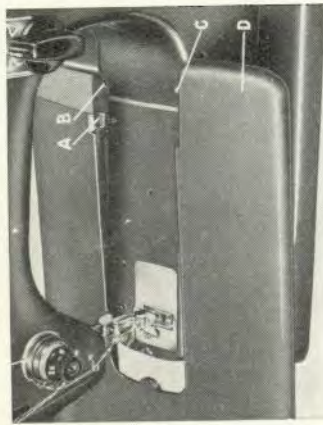

Fig. 16a.
To facilitate the sewing of flat work, the extension plate can be installed on the machine. To secure this extension plate, slip open end into the free arm as shown in Fig. 16a. Guide fork (A) at underside of extension plate into pin (B) projecting from rear of free arm. At the same time pull bolt (C) on underside of extension plate near its right end and permit it to enter its seat hole (D) in the side of the arm. Finally swing the supporting leg downwards from the left end of extension plate. If necessary, screw in or out its ball-shaped bottom in order to obtain the required support and also for the purpose of levelling the extension plate.